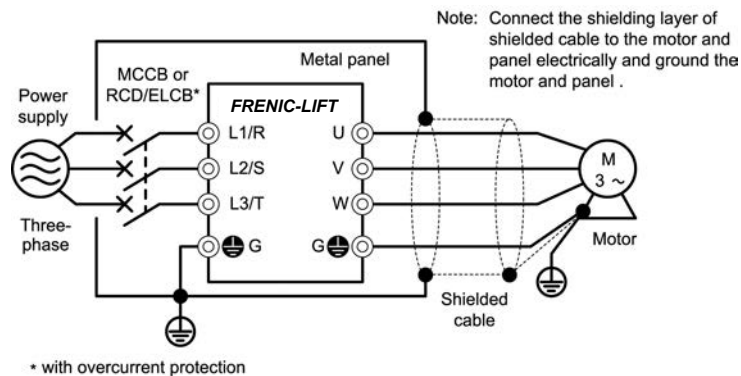

Figure 8.1 Installation inside a Panel
- 3) Place the inverter on a grounded metal plate such as the surface of a panel, as shown in Figure 8.1. If radiated noise emissions exceed the standard, place the inverter and any peripheral equipment inside a metal control panel.